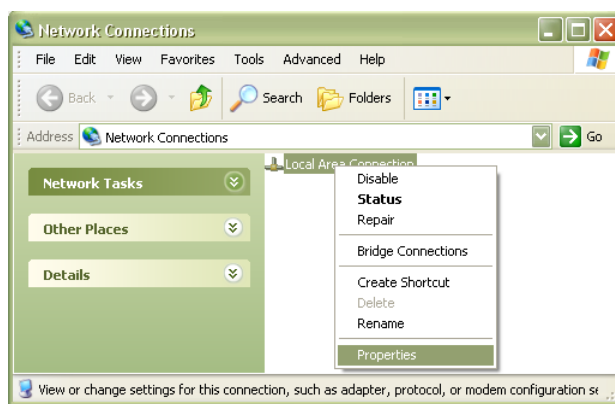

FIGURE 2-2: NETWORK CONNECTION PROPERTIES
- 3) Right click on the connection that will be used to communicate with the EX7000-OEM, then select **Properties** (see Figure 2-2). Some PCs have multiple network connections, so it is important to make certain that the connection used to communicate with the EX7000-OEM is selected.